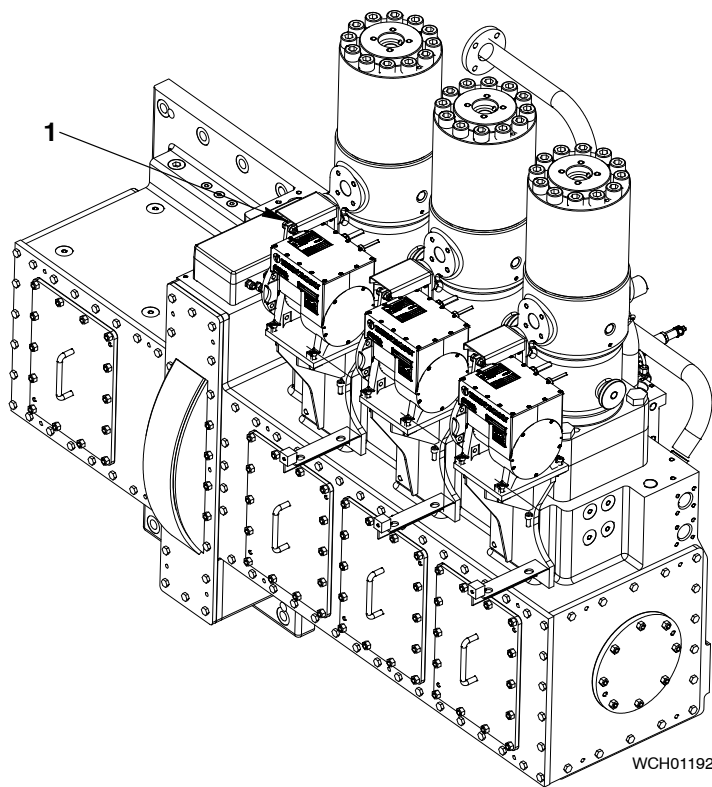

Fig. 1
- 1) Do a check of the connecting element (1, Fig. 1) as follows: